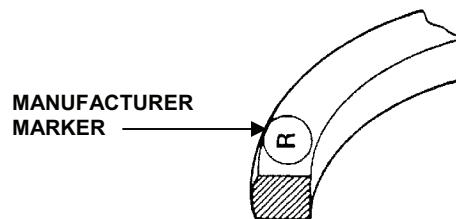

Figure 6. Piston Ring Marker.
- c. When inserting the piston rings, the manufacturer marker should face up. See Figure 6.